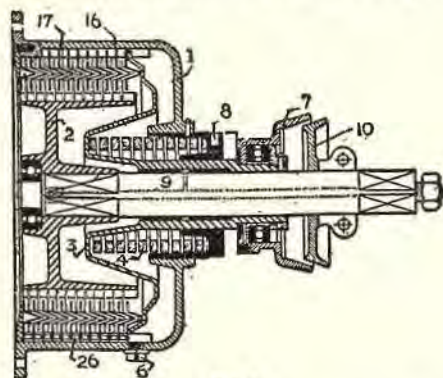

Fig. 6
In the Hele-Shaw disk clutch (Fig. 6), a similar principle is adopted. The plates consist of a number of alternate bronze and steel disks much thinner. They are corrugated to increase the grip.
Referring to the illustration (Fig. 6) the outer oil-tight case (1), to which the driving bronze plates (16) are keyed, is bolted to the fly wheel of the engine. The inner core (2) is keyed directly to the clutch shaft and to it are keyed driven steel plates (17).